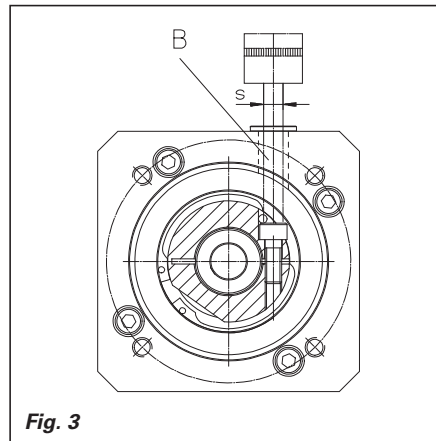

Fig. 3
- Tighten clamping screw (3.30.160) if the adapter shaft also clamping screw (3.40.080) at the clamping ring. To do this, put the extension piece of the torque spanner through the assembly hole (B) (Fig. 3). Tightening torque M_A as per table.